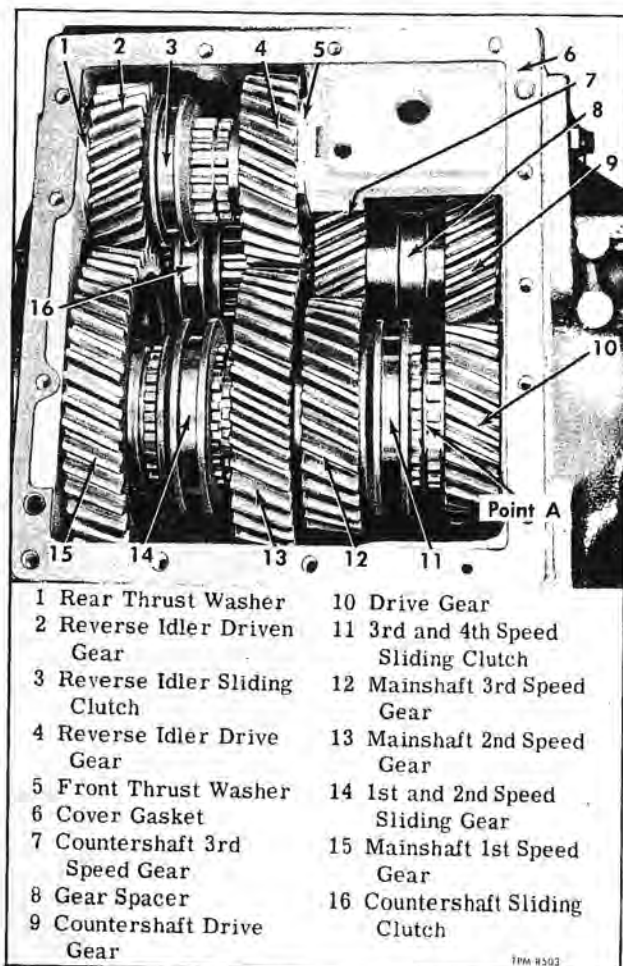

Figure 13—Transmission with Cover Removed
1. Remove oil filter assembly (23) from mounting pad on bearing cap assembly (25).
2. Remove stud nuts and washers attaching bearing cap (25). Remove bearing cap assembly and gasket (18).
3. Referring to figure 13 shift the sliding clutches to lock mainshaft so it cannot be turned, then remove bearing retaining nut (20) from drive gear (21).
4. Using puller screws in tapped holes in flange on bearing retainer (17) pull retainer and bearing assembly (24) out of clutch housing (27). Remove and tag shims (16) so same shims can be installed at assembly.
5. Remove stud nuts and washers which hold clutch housing in place on transmission case (two of the nuts are at transmission case flange), then with lead hammer, jar clutch housing loose and remove from studs. Remove retainer seal (6) from groove in retainer (9), and remove clutch housing gasket.
2. Use puller in tapped hole in reverse idler gear shaft and pull shaft out of transmission case. Referring to figure 13 remove reverse gears, thrust washers and bearings.